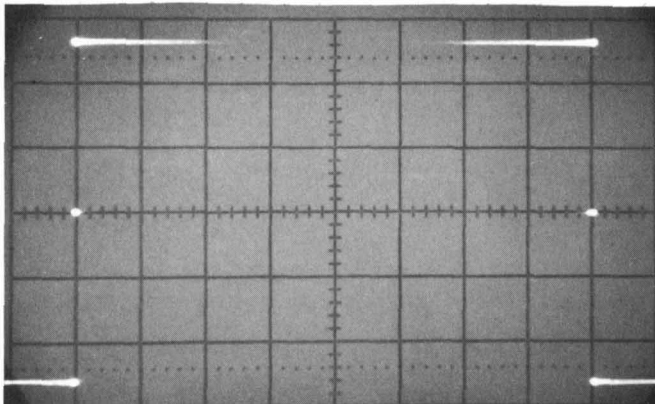

Figure 5-6. Attenuator Compensation
t. Adjust Attenuator Compensation C203 for round dots with no tails (see figure 5-6).